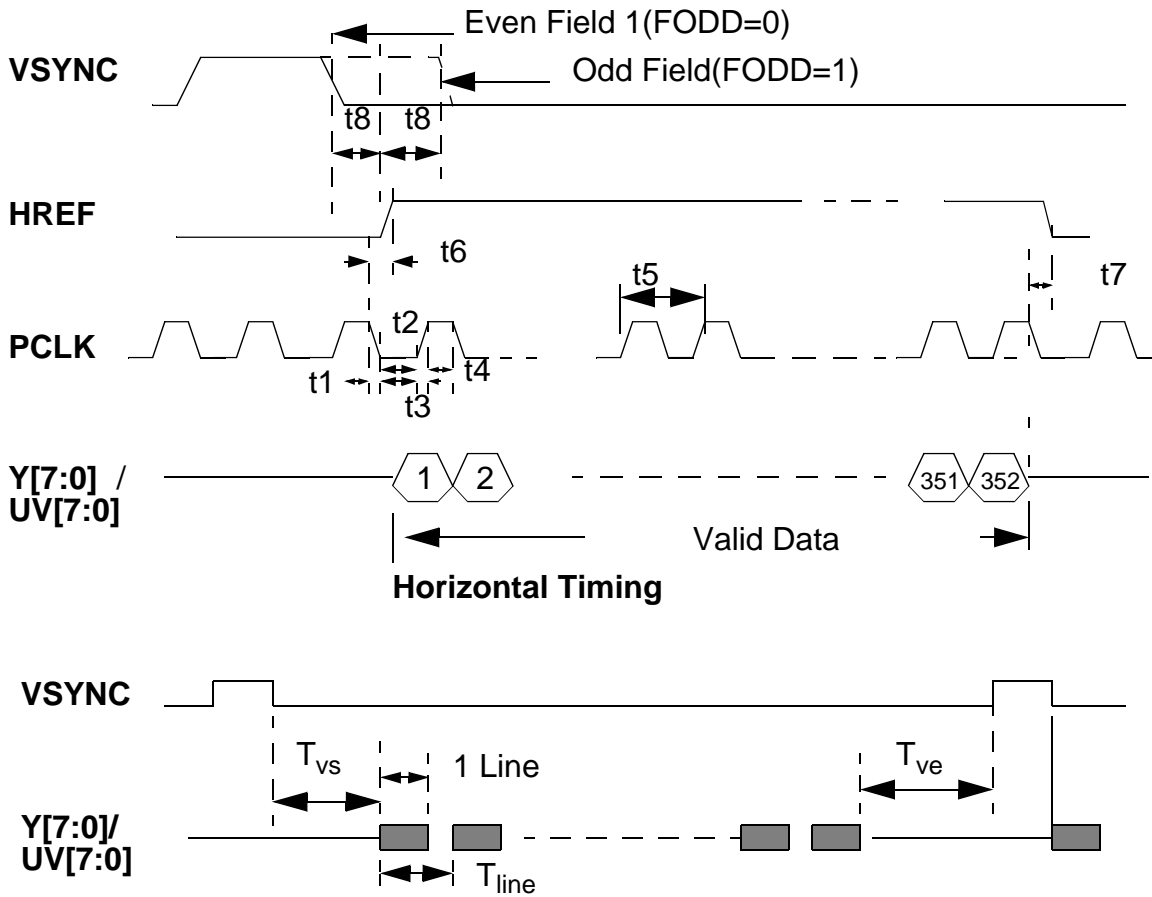

Figure 2. Zoom Video Port Timing
1.2.4 Zoom Video Port (ZV)
The OV6620/OV6120 image sensor includes a Zoom Video (ZV) function that supports standard ZV Port interface timing. Signals available include VSYNC, CHSYNC, PCLK and 16-bit data bus: Y[7:0] and UV[7:0]. The rising edge of PCLK clocks data into the ZV port. See Figure 2, Zoom Video Port Timing below.